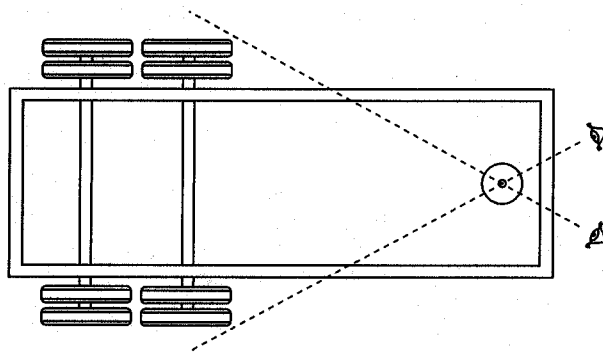

Figure 18: Checking for measurement obstructions
1. From a position at the front of the trailer, sight along a line under the trailer from the kingpin to each end of the front axle (Figure 18).